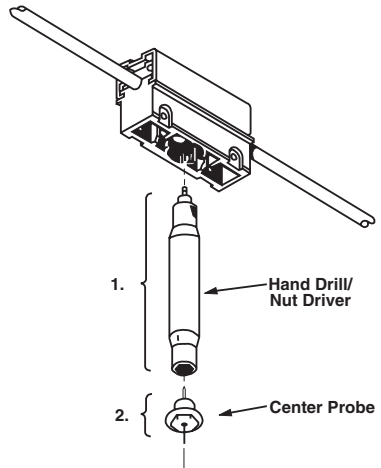

Fig. 4 Setting the Probe
6. Insert the drill end of the hand drill/nut driver (included in the installation kit) into the center hole in the bottom of the tap body (see Fig. 4) and drill a hole in the cable. **NOTE:** The drill has a stop on it to prevent overdrilling.
8. Using the nut-driver end of the hand drill/nut driver, thread the probe assembly into the center hole in the tap body and tighten it by hand (see Fig. 4). Do not overtighten the probe assembly.